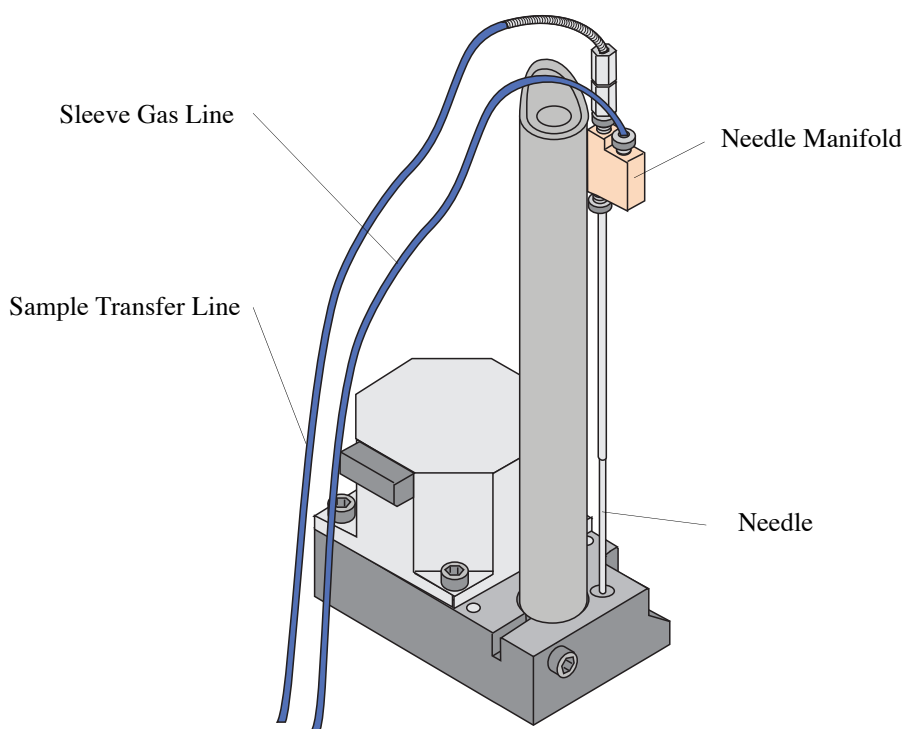

Figure 2.4. Needle Drive Assembly
**Needle drive assembly** raises and lowers the needle piercing assembly, depicted in Figure 2.4.
Figure 2.4 depicts the needle drive assembly of the Model 4551A Autosampler.